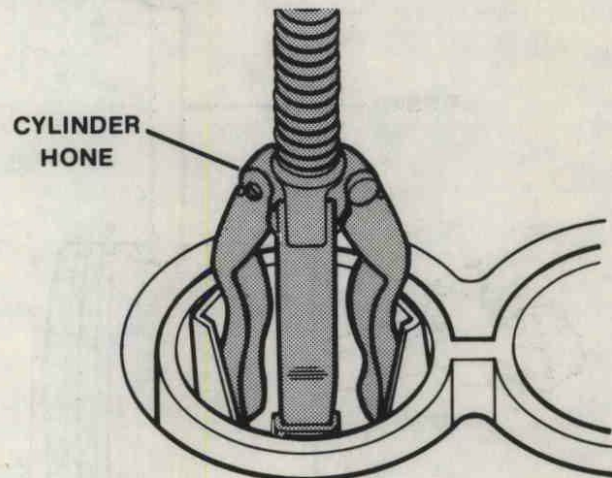

Figure 25. Honing Cylinders.
C. If cylinder is within wear tolerance, but slightly scored, hone with a fine stone cylinder hone. Figure 25.